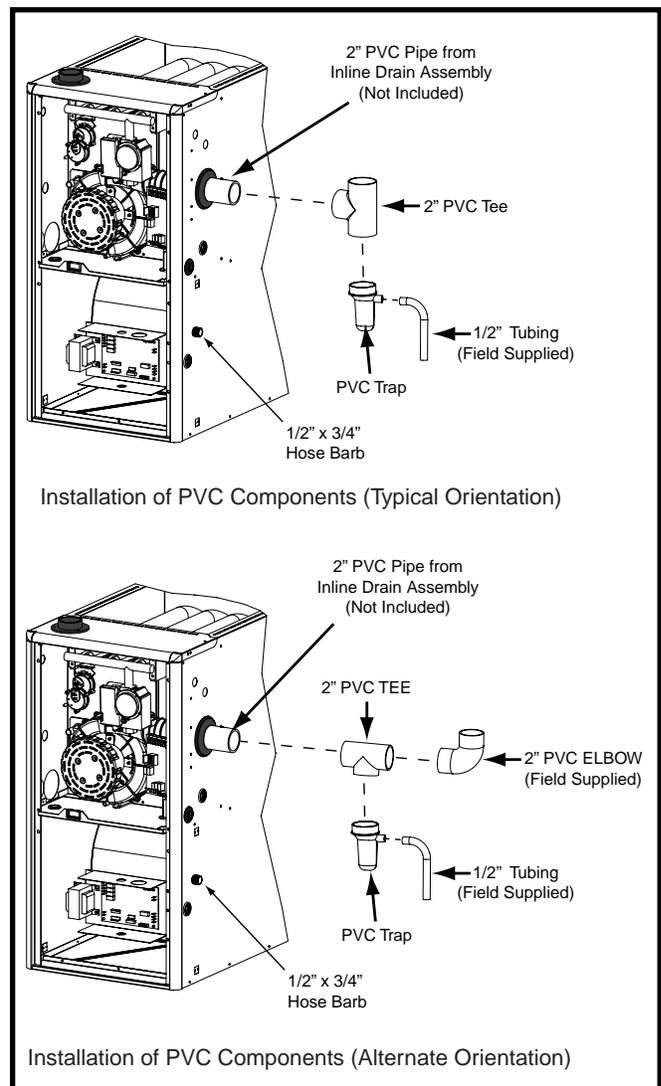

Figure 17. PVC Components
The 2" PVC Tee and Trap shown in Figure 17 (page 19) are used when the inducer is rotated to vent out thru the left or right side of the furnace cabinet.
1. Install the PVC Tee vertically on the 2" vent pipe that is extending out the side of the cabinet. Permanently bond them together using appropriate primer and cement. Refer to the typical orientation shown in Figure 17.
- Install the 2" PVC Tee horizontally on the 2" vent pipe that is extending out the side of the cabinet. Permanently bond them together using appropriate primer and cement. Refer to the alternate orientation shown in Figure 17.